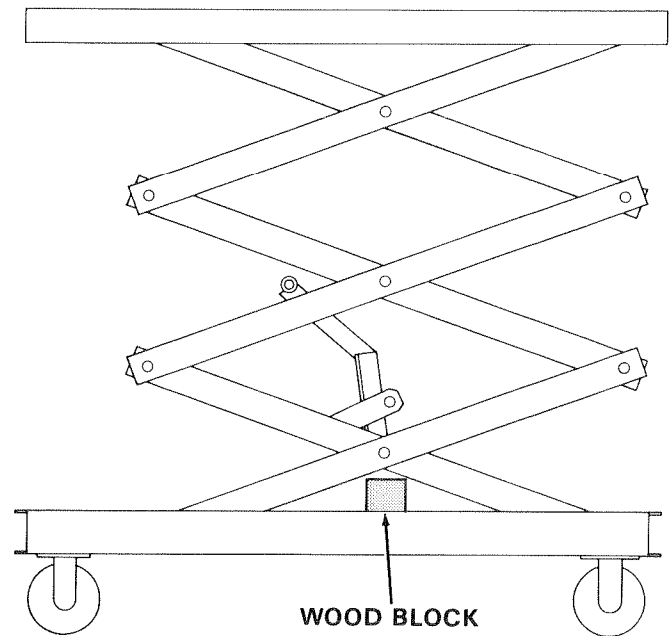

Figure 28.
3. Place a 4" x 4" x 36" long block of hardwood under center pivot pin of lower beam for added safety, Figure 28.